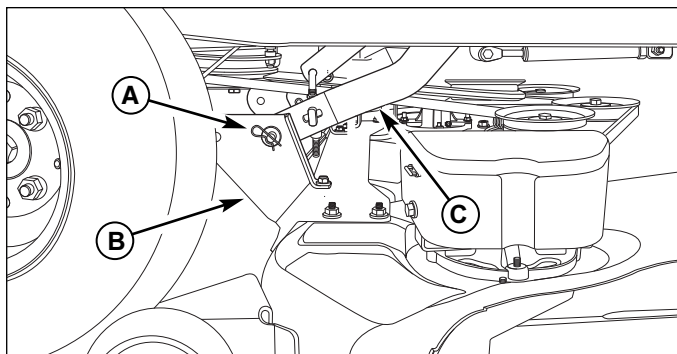

Figure 17. Rear Deck Lift Components
4. Remove the hairpin clips and washers (A, Figure 17) securing the rear mower deck brackets (B) to the rear lift arms (C), and pull the arms out from the holes in the brackets. Retain all removed hardware.
5. Insert the rear lift arms (C, Figure 17) into the front holes in the rear mower deck brackets (B), and secure each with a washer and hairpin clip (A).